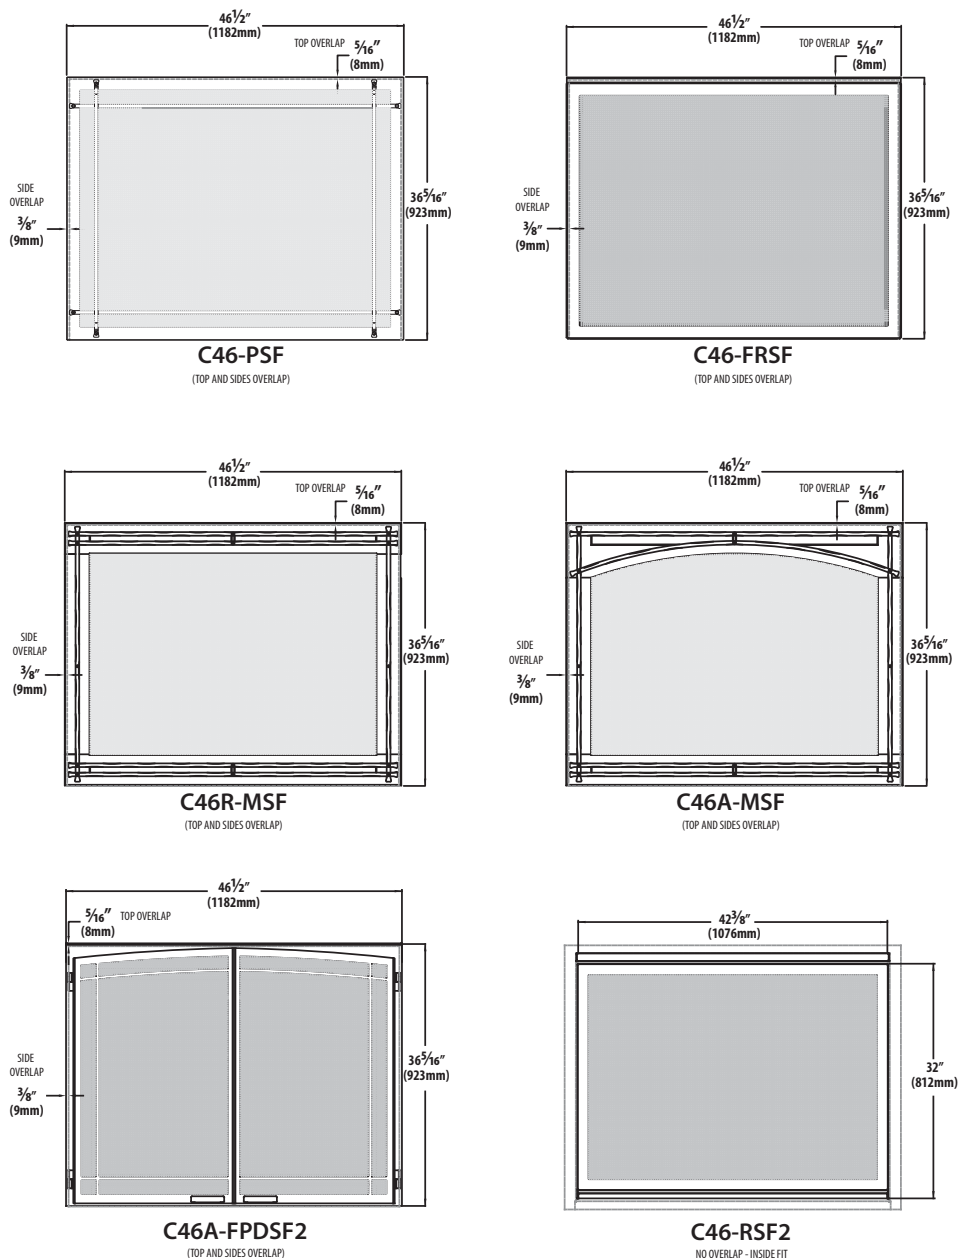

Figure 2.2, Safety Barrier Dimensions
**IMPORTANT:** Consider the height of hearth finish material when building a fireplace platform. Use Figure 2.2 below for overlap dimensions to ensure the barrier can fit with finishing materials.